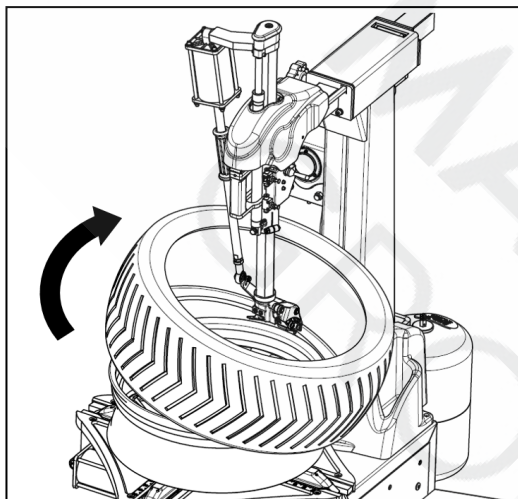

FIG34
- Clean up the oil and rust on the rim and lock the rim on the turntable. Note: the demount groove must be at upper side to mount. Spread the lubrication liquid or soap liquid around the lip. Tilt the tire against the rim and keep the front end upwards. Press down the column tilt pedal to make the column return to the original position. Move the demount head to firmly contacted rim. Position the left of the lip above the tail of the demount tool and the right under the hump of the demount tool (FIG34). Press down the right side of the tire as hard as you can and step turntable pedal to rotate the turntable clockwise to guide the lip into the tire detach slot completely.